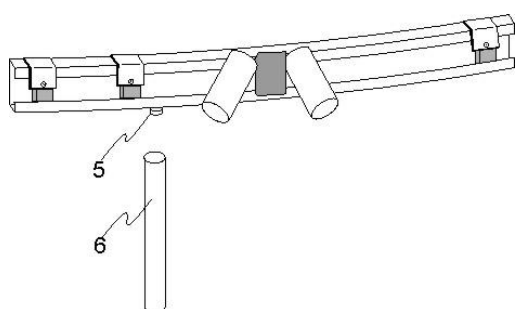

fig. 3.5
For Cabrio Domes bigger than Ø 4.0 m is additional support (6) **obligatory** (fig. 3.5).
- Adjust length of support (6) by sawing. The ground under the support must be solid.